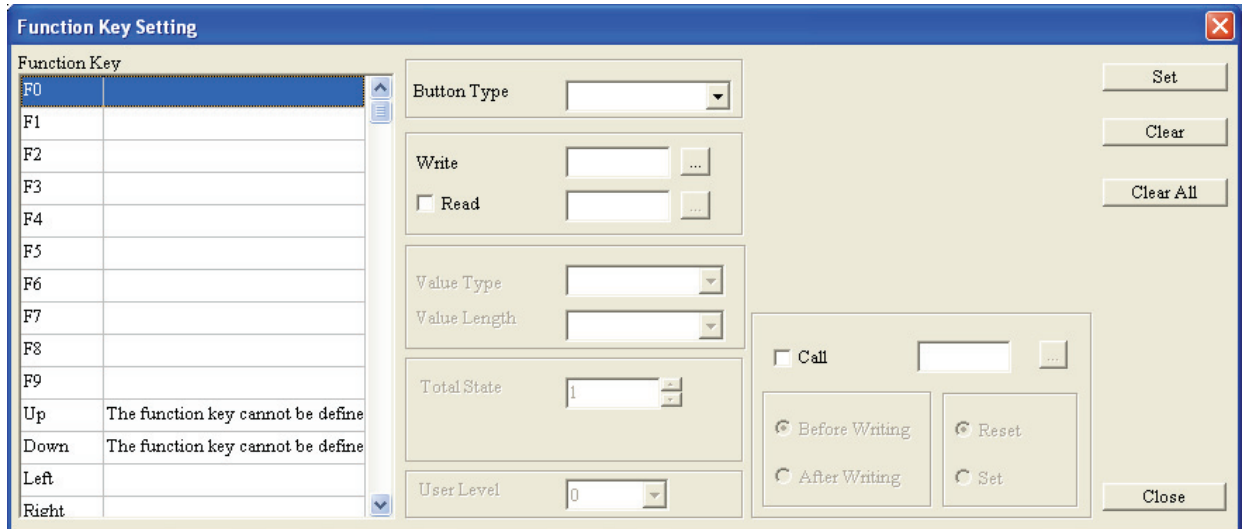

Figure 1-128
Step 2. Then, the following Function Key Setting dialog box will appear on the screen (Figure 1-128).